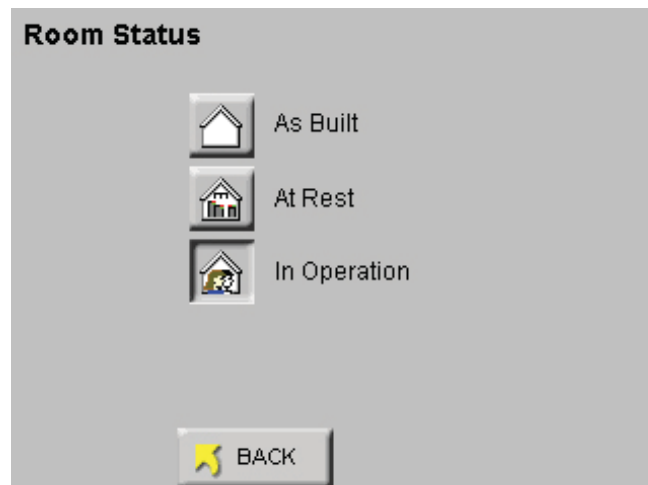

Figure 6-84 Reports Room Status Screen
- Press the STATUS button to display screen shown in Figure 6-84.